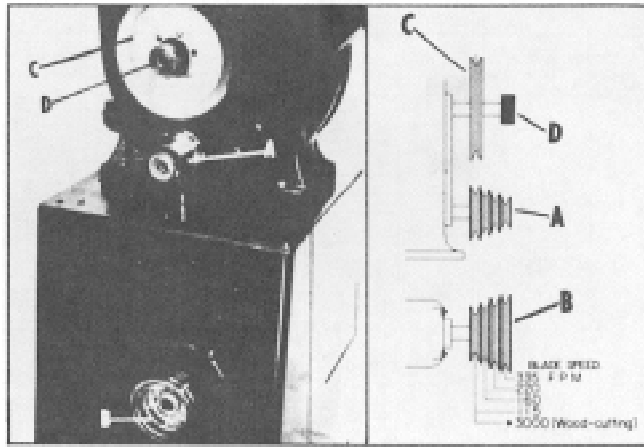

Fig. 22
Blade speeds of 115, 160, 220, 335 and 3000 FPM are available by interchanging the positions of the motor pulley and the gear box pulley. Fig. 22 shows the motor pulley (A) positioned on the gear box shaft and the gear box pulley (B) positioned on the motor shaft. Then with the long belt positioned on the inside groove of pulley (B) and pulley (C) and the small belt positioned to one of the remaining three grooves of the pulleys (A) and (B) Fig. 22, speeds of 160, 220, and 335 FPM are obtained when the shifter knob (D) is pushed in. To obtain the 3000 FPM blade speed simply pull out the shifter knob (D) Fig. 22. Blade speed of 115 FPM is obtained by pushing the shifter knob (D), removing the long belt from pulleys (B) and (C) and placing the small belt on the inside groove of the motor pulley (B) and gear box pulley (A).